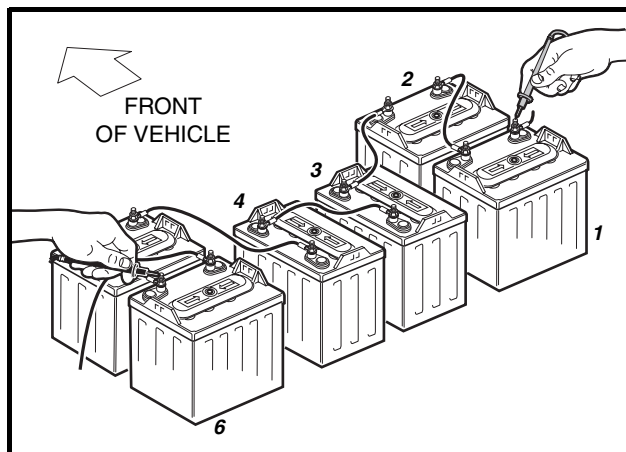
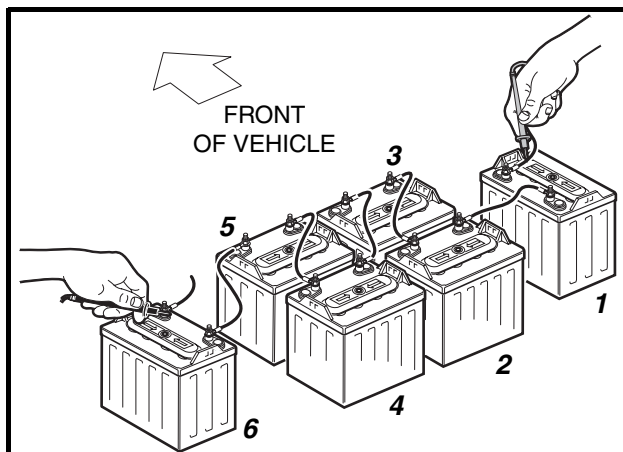

Figure 3-15 Turf 1 and Carryall 1 Battery Voltage Test
Figure 3-16 Limo Battery Voltage Test
- 4.2. **Turf 1, Carryall 1 and Limo:** With a multimeter set to 200 volts DC, measure the voltage of the battery pack between the positive (+) post of battery no. 1 and the negative (–) post of battery no. 6 (Figure 3-15, Page 3-19 and Figure 3-16, Page 3-19).